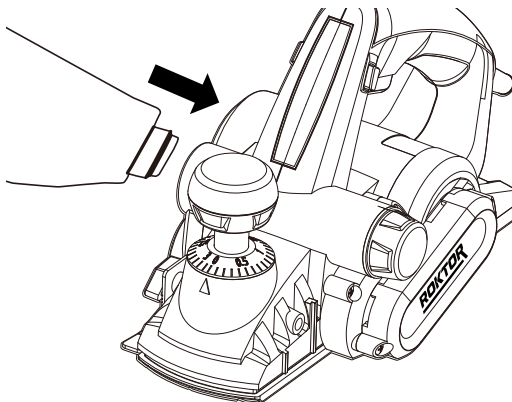

Figure 4
3. FITTING A DUST BAG (SEE FIG. 4)